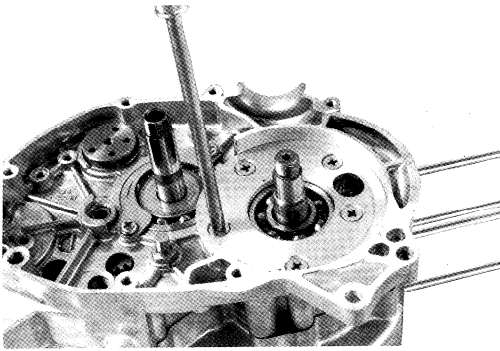

Fig. 5-4-26
26. The inner valve seat can be removed by loosening 5 cross head screws with a screw driver, but only for disassembling the crankcase it is not necessary to remove this inner valve seat. (Fig. 5-4-26)